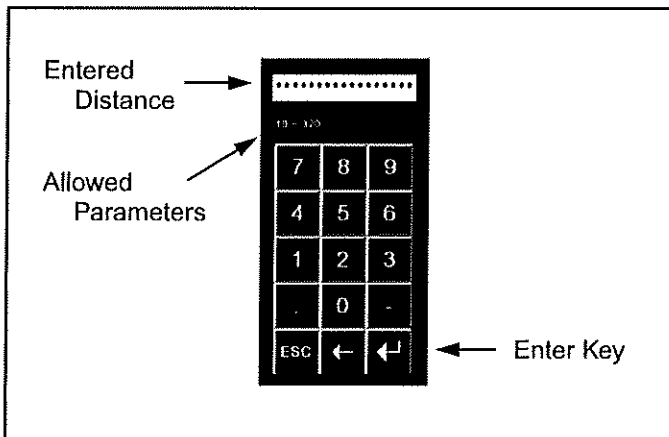

Figure 65
- b. Enter radial arc distance (select 10-320 ft) press enter (Figure 65).
- d. Enter extension distance press enter (Figure 65). (Select 10-46 - TS110 / 10-56 - TS130 / 10-66 - TS 150 & 170 / 10-86 - TS190)